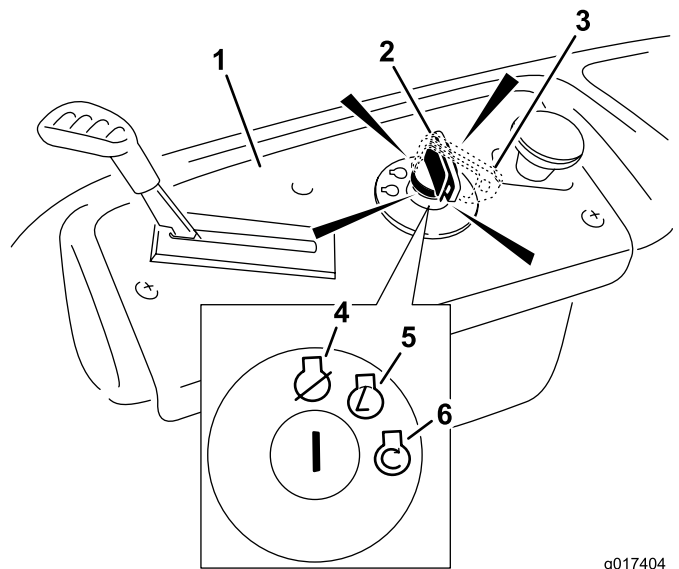

Figure 13
- Turn the ignition key to Start to energize the starter. When the engine starts, release the key (Figure 13).
2. Move the throttle lever to Fast (Figure 13).